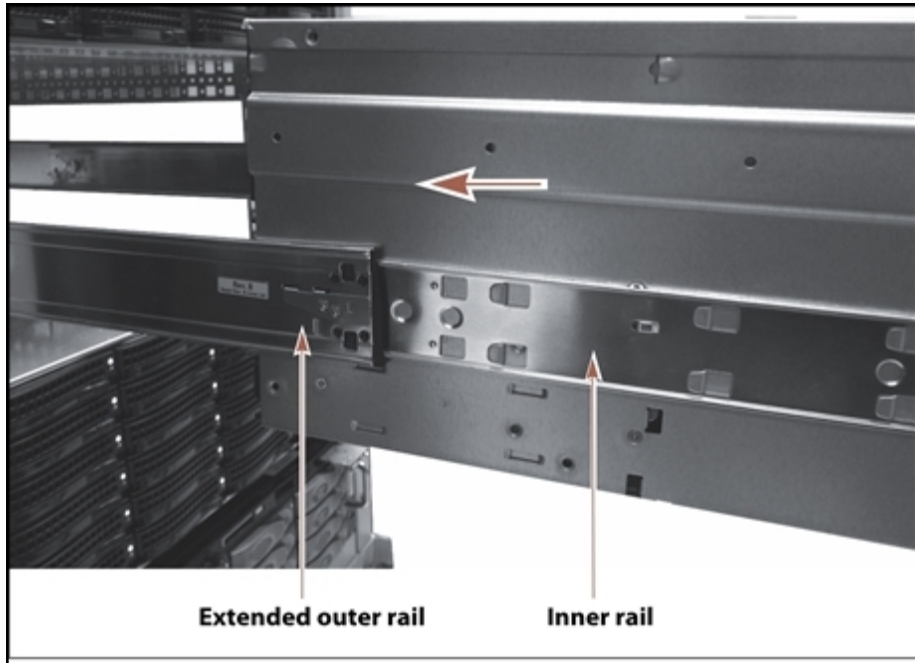

Figure 26 Extend outer rails and slide chassis into rack.
1. Pull the center section of the outer rails out of the rack until they are fully extended (see Figure 26 on page 36).